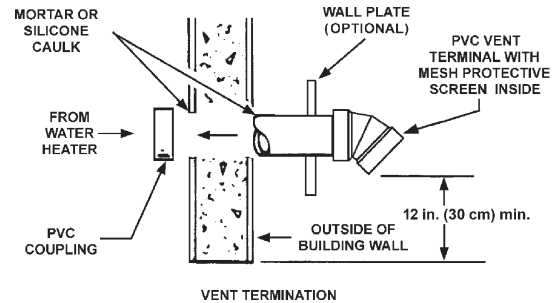
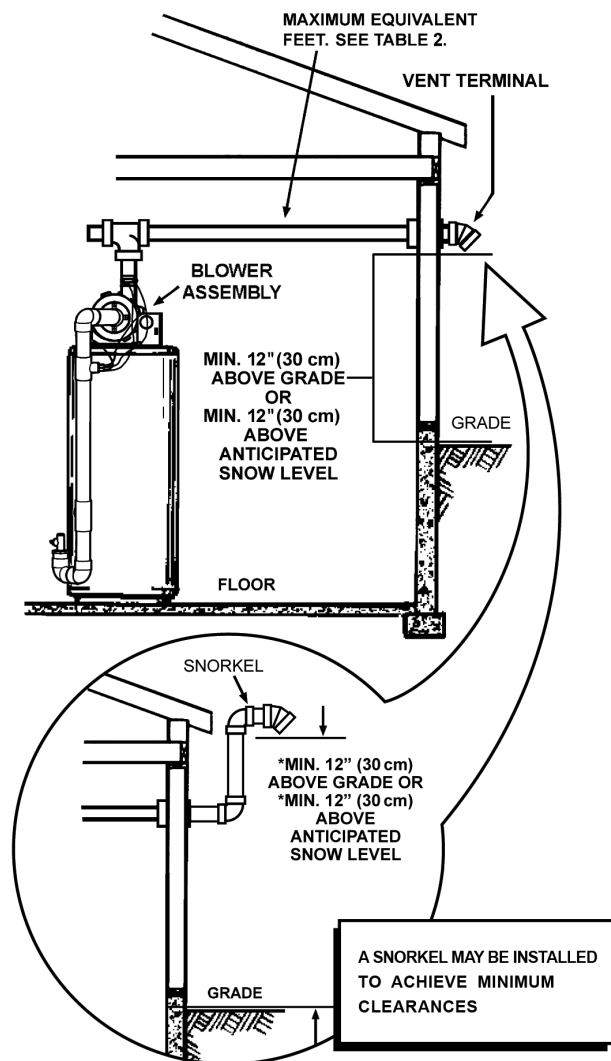
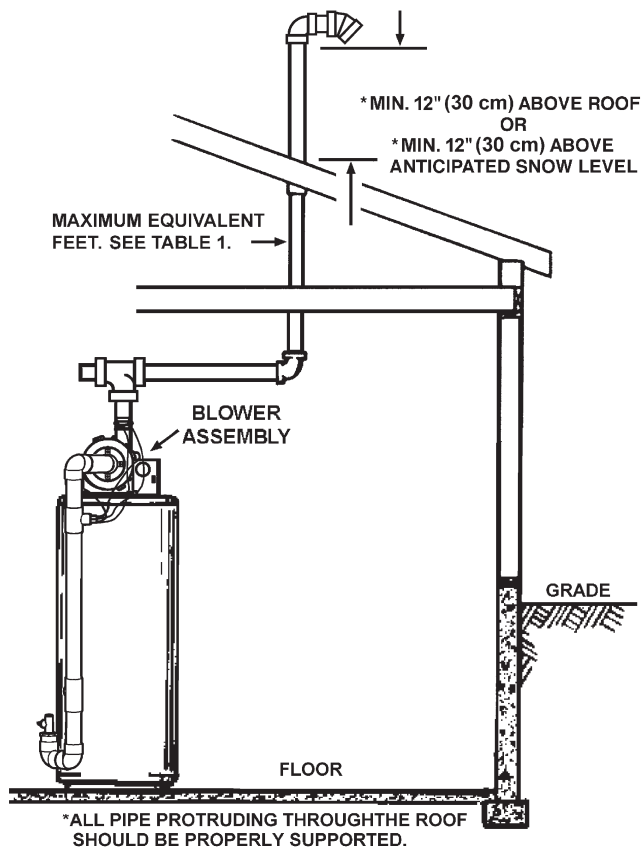

Figure 17. Sidewall Vent Termination
Figure 18. Sidewall Vent Installation
Figure 19. Through-the-Roof Vent Installation
Note: There will be some installations where condensate will be formed in the horizontal runs of the vent system. This condensate will run into the condensate boot attached to the blower and out the fitting. The water heater is shipped with condensate hose that attaches to the fitting on the condensate boot. No other Tee or fitting is required. See *Figure 17* (page 23), *Figure 18* (page 23), and *Figure 19* (page 24).
3. The blower discharge adapter is made to accept only straight sections of 2" pipe. To start, a minimum of 2 inches (5.1 cm) of 2" pipe must be attached to the blower discharge. See *Figure 17* (page 23).
The first step is to determine where the vent pipe will terminate. See *Figure 25* (page 28), *Figure 18* (page 23), and *Figure 19* (page 24). The vent may terminate through a sidewall as shown in *Figure 18* or through the roof as shown in *Figure 19*.
5. Slide the pipe through the wall and insert into the coupling on the other side of the wall, making sure that the vent terminal ends up pointed in the correct position. See *Figure 17*.
It is recommended that the completion of the venting system start at the blower assembly and run to the coupling on the inside wall of the vent terminal. See *Figure 17*.
If necessary to achieve the 12" minimum clearance above the highest anticipated snow level, install a snorkel as shown in bottom portion of *Figure 19*.
snow level to prevent blockage of the vent termination, as shown in *Figure 18* and *Figure 19* (page 23).